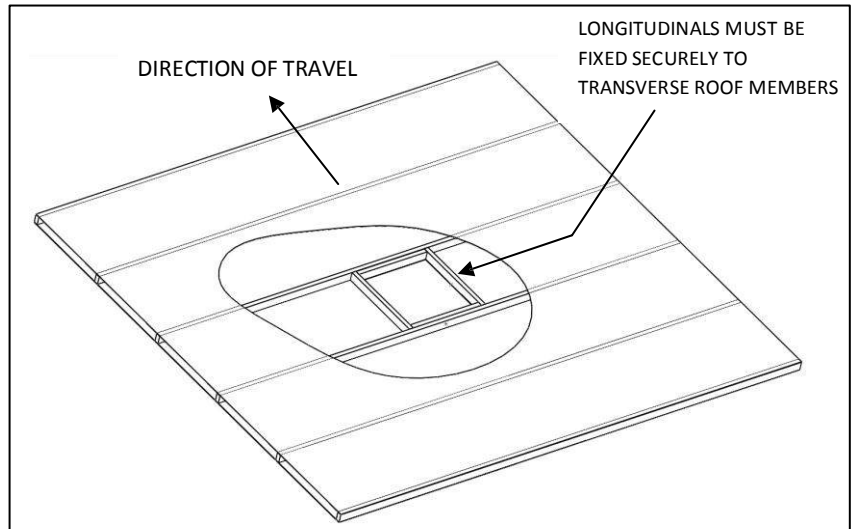

Fig 3: Shows an ideal roof structure with strong longitudinals and a 14” hole boxed
- The square hole in the roof (356 x 356mm, 14” x 14”) **MUST** be boxed up with minimum 20mm square timber to provide a structure strong enough to withstand the compression of the installation bolts. This is also to ensure that air is not drawn from the roof cavity (Fig 3 & 4). Remember to leave access for wiring.
- Longitudinals **MUST** be fixed securely to the transverse roof members to transfer load (see Fig 3).